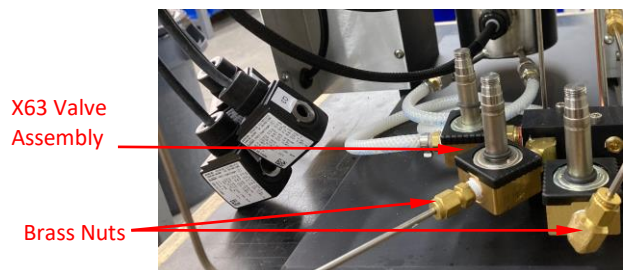

Figure 4
- d. Finger tighten the brass nuts onto the new X63. Then using a 7/16" wrench tighten the nuts no more the 1/8" turn. See Figure 4.